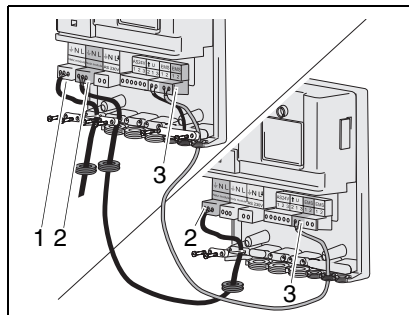

Fig. 4 Connecting two modules to each other, installing the mains connection
To connect two or more modules, interconnect the mains connections (fig. 4, pos. 2) and the EMS-connections (fig. 4, pos. 3).
- Install the mains connection (fig. 4, pos. 1 and fig. 2, pos. 3).